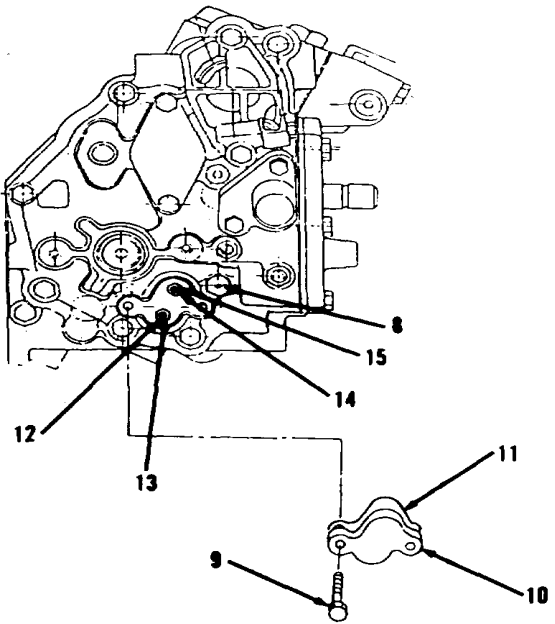

Figure 3-106.
- 15. Install bolt in hole where plug (6) was removed.
- 16. Install circuit tester. Connect one wire to insulator contact (8, Figure 3-106) and connect the other wire to ground.
20. Remove two bolts (9), cover (10) and gasket (11, Figure 3-106) from rear governor housing. Discard gasket (11). Remove all gasket material from mounting surfaces.
21. Using rack adjustment tool, loosen lock nut (12).
22. Using rack adjustment tool, adjust screw (13). Turn screw clockwise to decrease the static fuel setting. One half turn of the setscrew will change reading on dial indicator approximately 0.016 inch. Turn until reading of 0.056 inch is obtained.